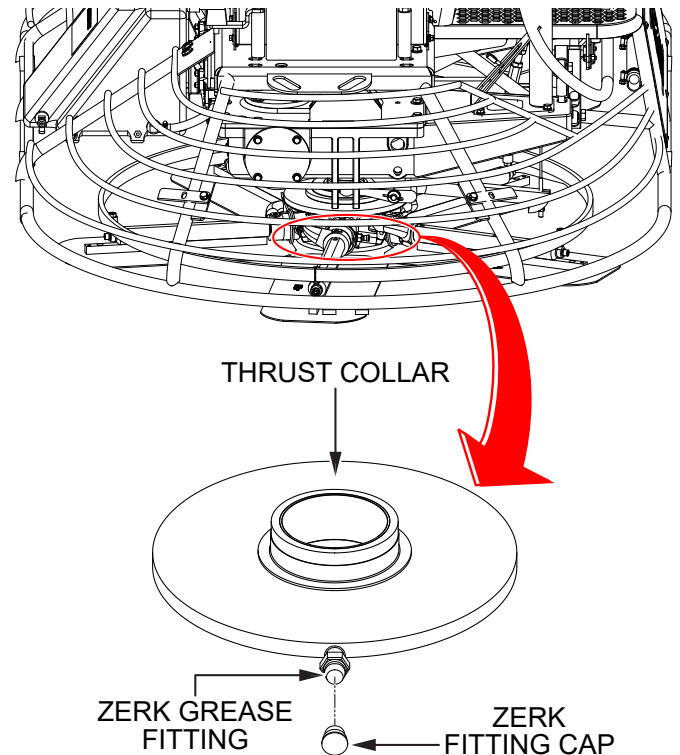

Figure 27. Thrust Collar Lubrication
1. Locate the Zerk grease fitting on either thrust collar (Figure 27). Remove the Zerk grease fitting cap and set it aside.